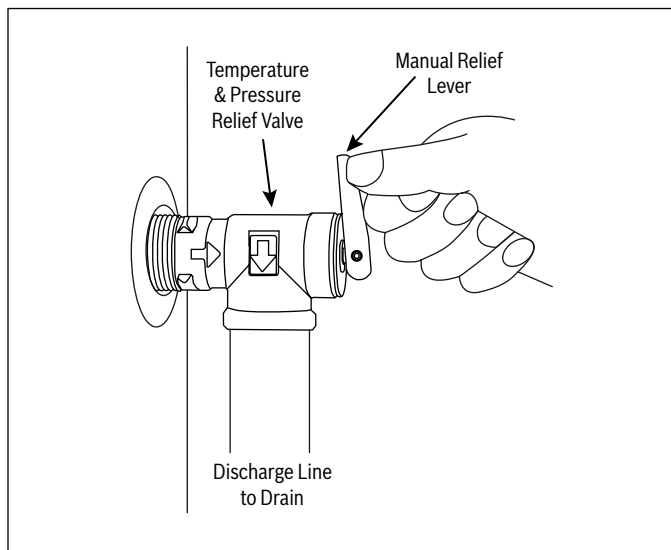

Figure 17 Testing the temperature & pressure-relief (T&P) valve
- Lift the lever as shown in figure 17.